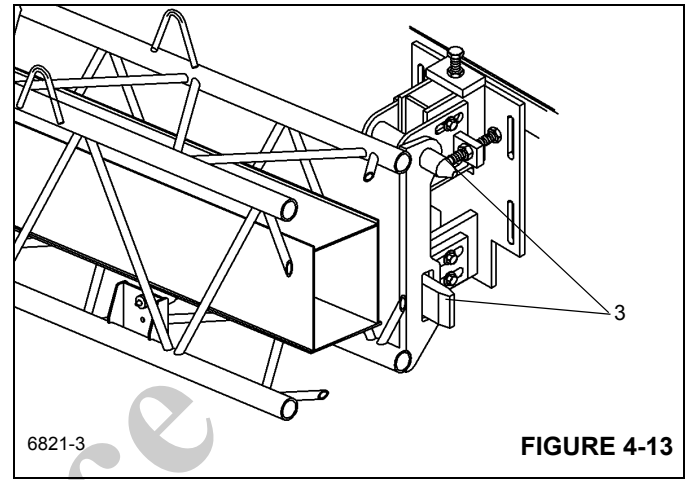

FIGURE 4-13
8. Slightly raise and/or lower the boom to help control the boom extension. Using the rope attached to the top of the boom extension, manually swing the extension into place ahead of the boom nose, engaging the attachment fittings (5) with the anchor fittings on the left side of the boom nose. (Figure 4-13)
9. Install the top left side attachment pin (6) and retainer clip into the upper anchor and attachment fittings of the boom nose. (Figure 4-13)
10. Extend the boom extension alignment jack (7) until the lower left side boom nose and boom extension adapter lugs are aligned.
11. Install the bottom left side attachment pin (8) and retainer clip into the lower anchor and attachment fittings of the boom nose.
13. Release pressure on the boom extension alignment jack (7). (Figure 4-13)
14. Install the Mast Assembly (9) in the upright position using the locking pin.
4. Remove the mast assembly retainer pin and the pin securing the mast assembly in the upright position (9). (Figure 4-13) Lay the mast assembly over to the stowed position. Insert the pins securing the mast to the base section.
10. Extend the boom extension alignment jack (7) (Figure 4-13) until the bottom left side attachment pin (8) is free. Remove the bottom left side boom extension clip pin and attachment pin.
12. Remove the top left side attachment pin (6) and clip pin from the upper anchor and attachment fittings of the boom nose.